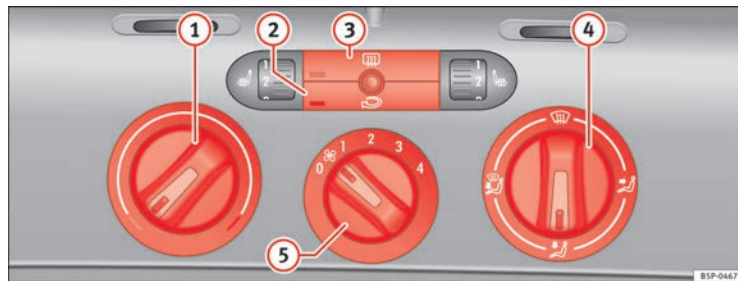

Fig. 106 Heating controls on the dash panel
- Using the controls ⇒ fig. 106 ① and ④ and the control ⑤ you can set the temperature, air distribution and the blower speed.
- To switch a function on or off, press the appropriate button ② or ③. When the function is activated, the display window in the lower left of the button is lit.